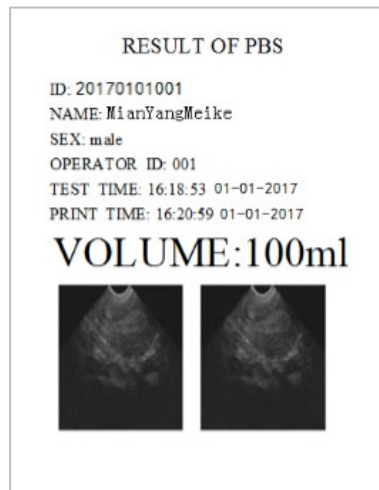

Figure 7-41 Test record print
7.15.2 The print result is shown in Figure 7-41. The number of images in the print result is 2.